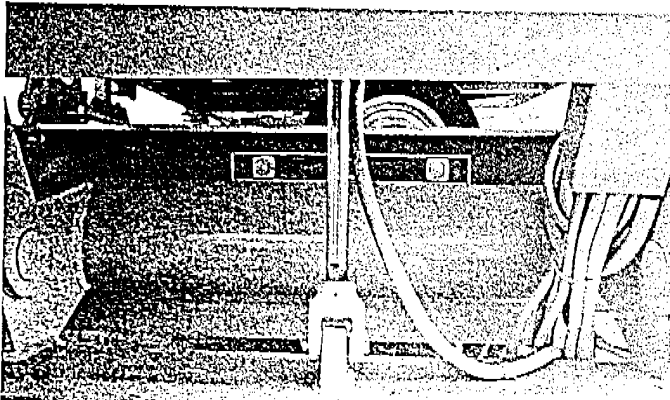

Fig. 5
- (1) Across the back end of the trailer frame.
- (2) Across the main bearing rocker shaft at the front of the trailer. (Fig. 5)